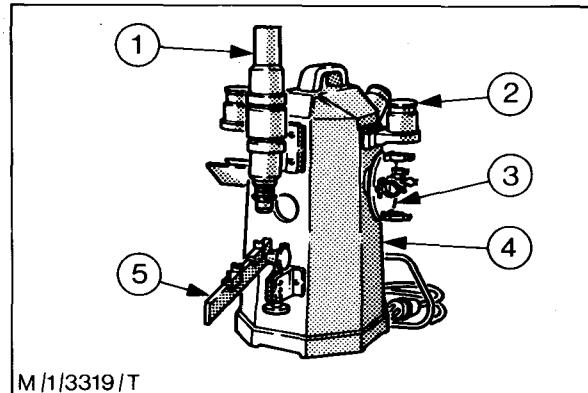

Fig. 89 - Nozzle Viewer (Tool No. HH 103)
7. Using the 'Probelight' kit (TOOL NO. ANR6) and the Nozzle Viewer (TOOL NO. HH103), (Fig. 89) carefully examine the nozzle and needle seat. If the seats are ridged, pitted or discoloured due to overheating, and it is decided to recondition the existing nozzle and needle rather than use new parts, either Lucas CAV or Leslie Hartridge Ltd., should be consulted since this work is highly specialised.